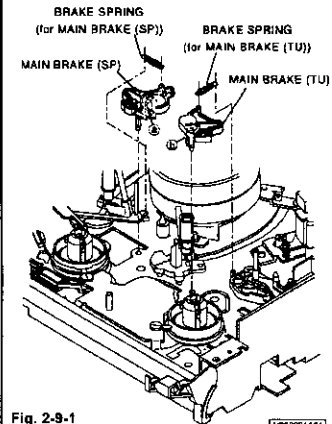

Fig. 2-9-1
- Remove the BRAKE SPRING (for MAIN BRAKE (SP)) shown in Fig. 2-9-1.
- Unfasten the catch (a) of the MAIN BRAKE (SP) shown in Fig. 2-9-1 with tweezers, etc. to remove the MAIN BRAKE (SP).
- Remove the BRAKE SPRING (for MAIN BRAKE (TU)) shown in Fig. 2-9-1.
- Unfasten the catch (b) of the MAIN BRAKE (TU) shown in Fig. 2-9-1 to remove the MAIN BRAKE (TU).
- Install the MAIN BRAKE (TU) shown in Fig. 2-9-1.
- Install the BRAKE SPRING (for MAIN BRAKE (TU)) shown in Fig. 2-9-1.
- Install the MAIN BRAKE (SP) shown in Fig. 2-9-1.
- Install the BRAKE SPRING (for MAIN BRAKE (SP)) shown in Fig. 2-9-1.